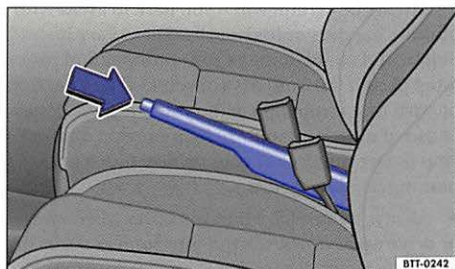

Fig. 127 Between the front seats: Parking brake.
- Pull the lever up slightly and press the release button ⇒ fig. 127 (arrow).